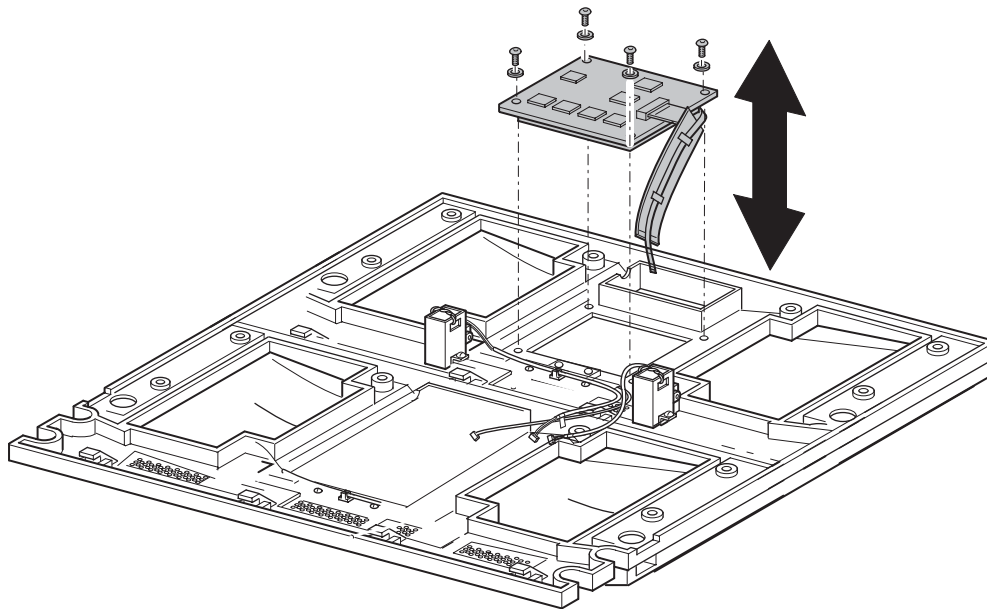

Figure 3–10: Removing the GUI touch screen
1. Place the GUI assembly on the mounting posts with the ribbon cable and flex cable to the right (see Figure 3–10).